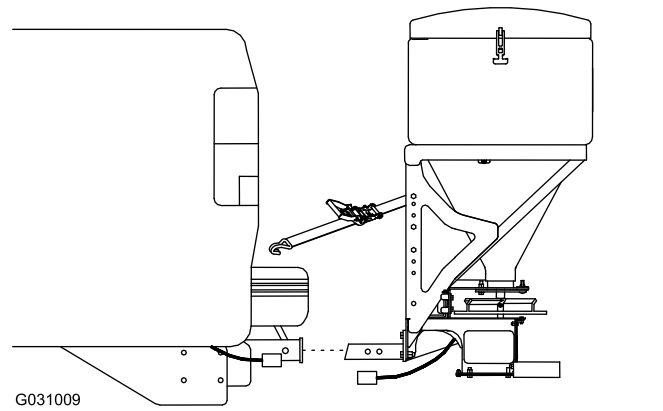

Figure 7
2. Slide the hitch on the spreader into the receiver hitch of your vehicle and line up the second hole on the spreader hitch with the hole in the hitch of your vehicle (Figure 7).